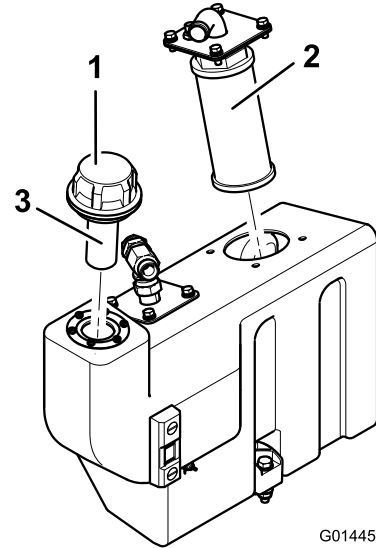

Figure 89
- Remove the oil tank suction flange to gain access to the suction strainer (Figure 89).
- Unscrew and remove the strainer and clean with paraffin or petrol before installing (Figure 89).